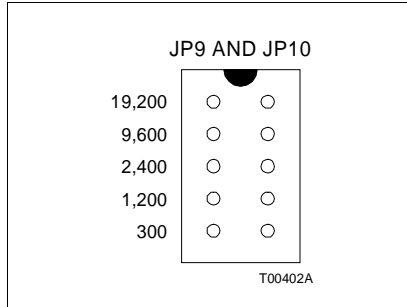

Figure 3-2. Jumper Settings for Communication Rates
Set the communication rate of each RS-232-C port. Figure 3-2 shows the jumper settings for the available communication rates. Install a jumper on JP9 to set the communication rate for the diagnostic terminal. Install a jumper on JP10 to set the communication rate for the computer terminal.
3. Connect one end of the Bailey supplied ribbon cable (DMA cable) to the P4 connector on the LIM. Connect the other end of the DMA cable to the P4 connector on the PTM (see Figures 3-2 and 3-3).